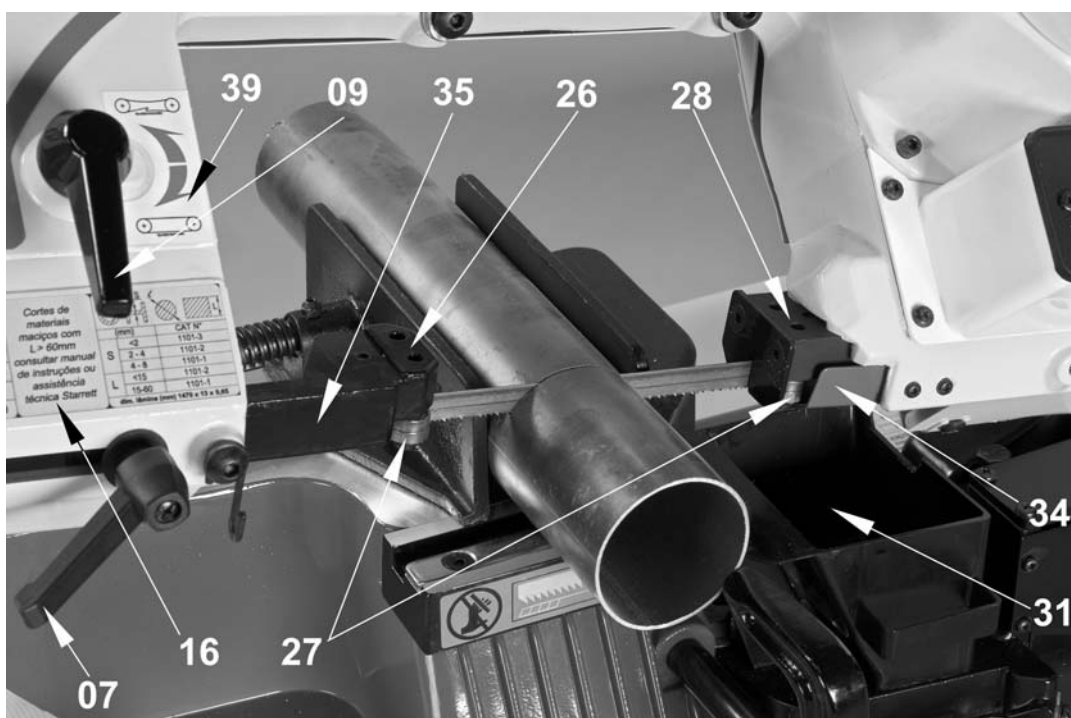

Figure 03
Support (35), close to the driven Wheel (25), can be manually adjusted by loosening Knob (07), to set its distance relative to the material to be cut (figure 03).